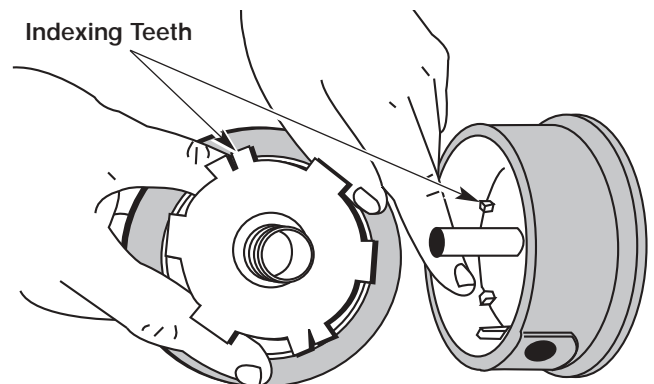

FIGURE 26
5. Check the indexing teeth on the inner reel and outer spool for wear, Figure 26. If necessary, remove burrs or replace the reel and spool.